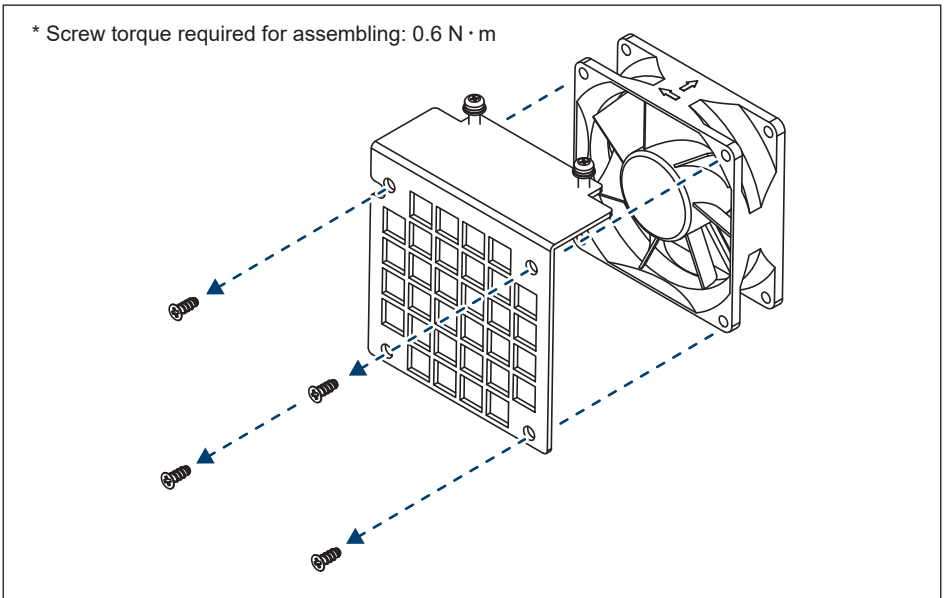

Figure 5-16: Replace with a new fan
- (3) Lift the entire fan assembly. (**Figure 5-16**)
- (4) Clean assembly or replace with a new fan.
- (5) Reassemble by using 0.8 N · m tightening torque.